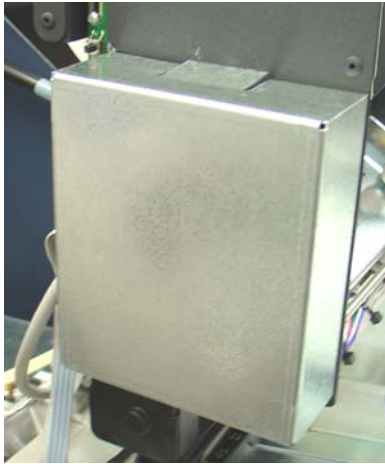

Figure 1. Printer controller cover.
1. Remove the receipt paper and spool from the printer assembly. Remove the printer controller board cover, if installed (Figure 1).